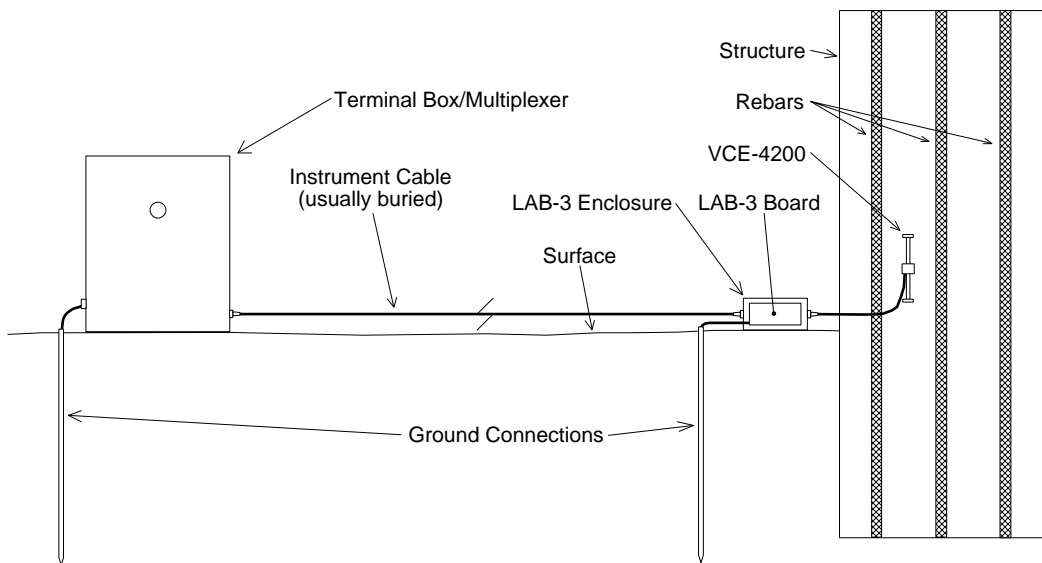

Figure 4 - Lightning Protection Scheme
- Lightning arrestor boards and enclosures are available from Geokon that install at the exit point of the instrument cable from the structure being monitored. The enclosure has a removable top so, in the event the protection board (LAB-3) is damaged, the user may service the components (or replace the board). A connection is made between this enclosure and earth ground to facilitate the passing of transients away from the gage. See Figure 4. Consult the factory for additional information on these or alternate lightning protection schemes.